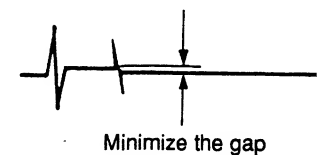

Fig. 2-3.
4. As shown in Fig. 2-3, adjust the BRT CENTER adjustment potentiometer until the waveform becomes flat.